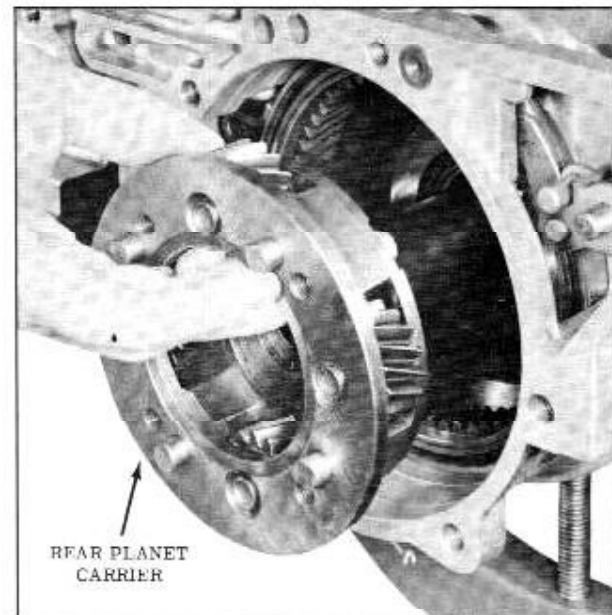

Figure 3-47 Removing Rear Carrier
4. Remove the rear carrier and shaft assembly from the rear of the transmission. (Fig. 3-47)